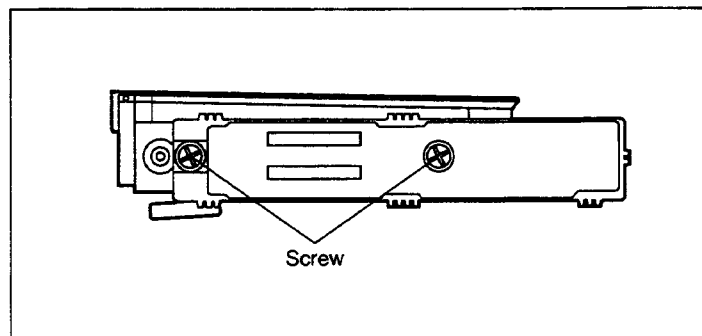

Fig. 5-28
- 5) Remove 2 screws, as shown in Fig. 5-28, and remove the CCD Board.